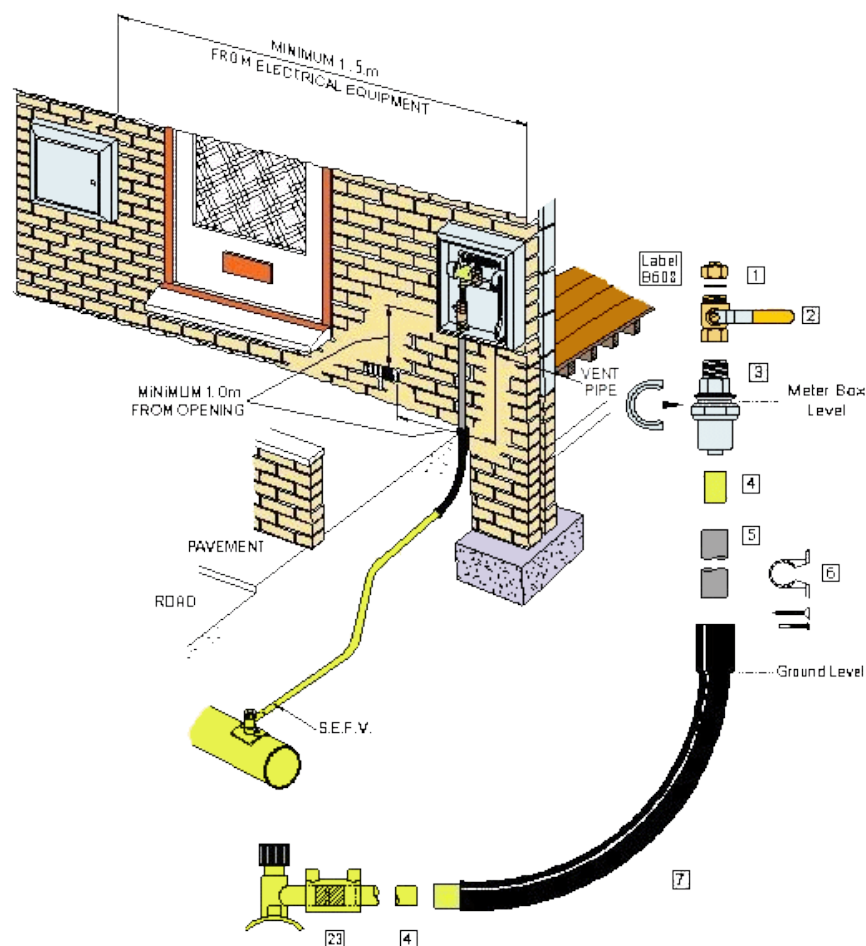

Figure 87 - MP PE service to surface mounted meter box
4. The tip of the relief vent pipe must not be located closer than 1.0 m to any opening into a property and must be at least 1.5 m away from any electrical equipment, in accordance with Figure 87.